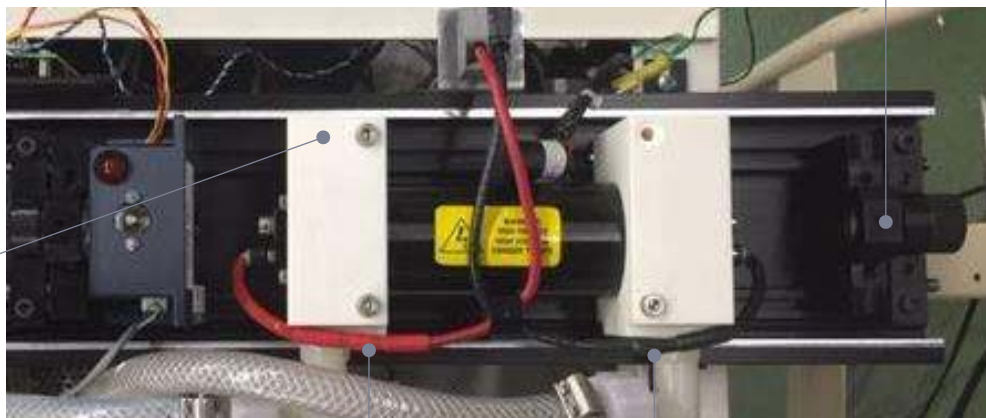

Figure 4
10. Remove the three (3) screws securing the pump chamber assembly to the rail **(figure 4)**.